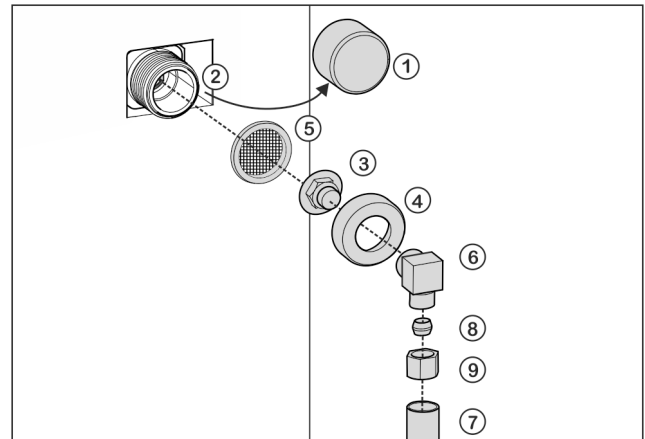

Fig. 11 Example illustration
- Pull the cap Fig. 11 (1) off of the solenoid valve Fig. 11 (2).
- Insert the connector Fig. 11 (3) into the union nut Fig. 11 (4).
- Insert the filter Fig. 11 (5) with the recessed side facing downward toward the connector Fig. 11 (3).
- ▶ Thread the union nut *Fig. 11 (4)* onto the thread of the solenoid valve *Fig. 11 (2)* by hand until it is securely seated.
- ▶ Screw on the elbow fitting *Fig. 11 (6)*.
- ▶ Connect the water line *Fig. 11 (7)* (e.g., 1/4" OD copper line) to the elbow fitting *Fig. 11 (6)* using a ferrule *Fig. 11 (8)* and union nut *Fig. 11 (9)*.
- ▶ If necessary: Secure the water line *Fig. 11 (7)* to the housing using the retaining clip.
- ▶ Set the elbow fitting *Fig. 11 (6)* aside.
- ▶ Connect the water line *Fig. 11 (7)* (e.g., 1/4" OD copper line) to the connector *Fig. 11 (3)* using a ferrule *Fig. 11 (8)* and union nut *Fig. 11 (9)*.